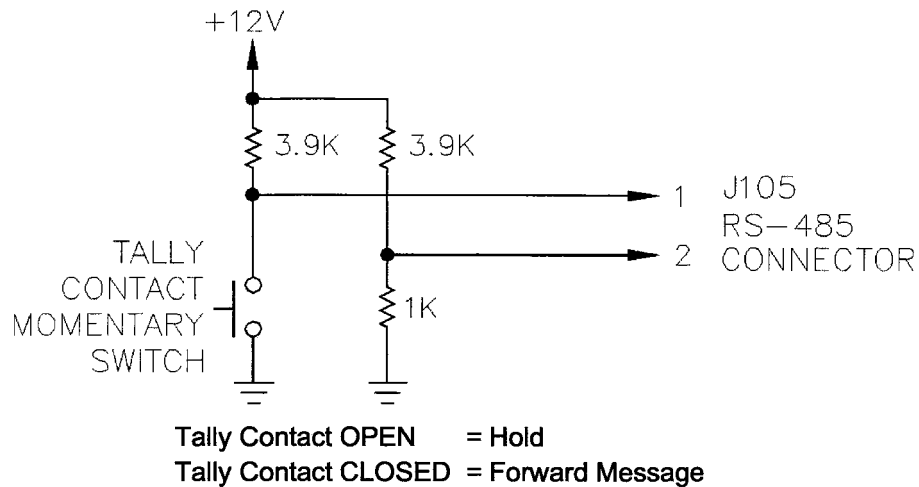

Figure 4.26-1. Tally Input External Biasing
In Auto Forward Mode, the RS-485 Remote Control and Status interface can be used as a Tally input when EAS 941A Remote Control/Status Modules are not used. To enable this mode, select 0 REM/TALLY ON from the Remote Control/Status Module menu (SETUP item 23). The mode is disabled by selecting 0 REM/TALLY OFF from the menu. Biasing the input as shown below in Figure 4-26-1 will permit a Normally Open tally contact to delay an Auto-forwardable message, then release it for forwarding with a momentary closure.